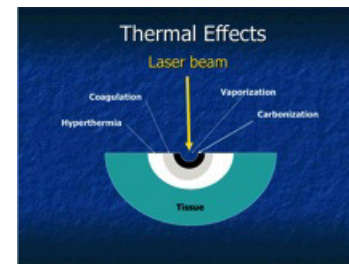

Figure 1. Thermal Effects of Diode Laser Ablation.
Now after selecting the tip that you wish to use, one must consider whether to **INITIATE** the tip or not. **The simple rule is that any time that you wish to be in contact with tissue and ablate it, the tip must be initiated.** The process of initiating the tip will concentrate the laser energy in the tip essentially making it a "hot tip". The monochromatic laser light is turned into heat and hence this process is called a **photothermal** reaction. The heat that is generated causes a localized zone of vaporization, surrounded by zones of carbonization (try to keep the char zone as small as possible), coagulation and hyperthermia. Fig. 1 The higher the settings, typically the faster the vaporization, but the greater these other zones of unwanted lateral thermal damage may be. In keeping with the Academy of Laser Dentistry's most current guidelines which "advise the use of the lowest average fluence to avoid risks of excessive heat complications whenever possible." (1) Of course total treatment time must also be kept in mind in trying to minimize the collateral thermal damage that can be created by prolonged exposure to laser energy through settings that are not above the ablation threshold required for vaporization.